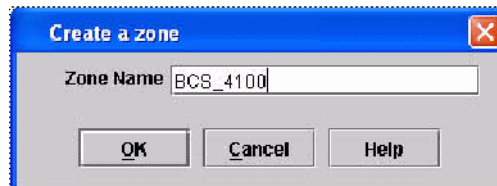

Figure 7-24 Create a zone window
14. In the Create a zone dialog box (Figure 7-24), enter a name in the Zone Name field and click **OK**. In our example, we typed BCS_4100.